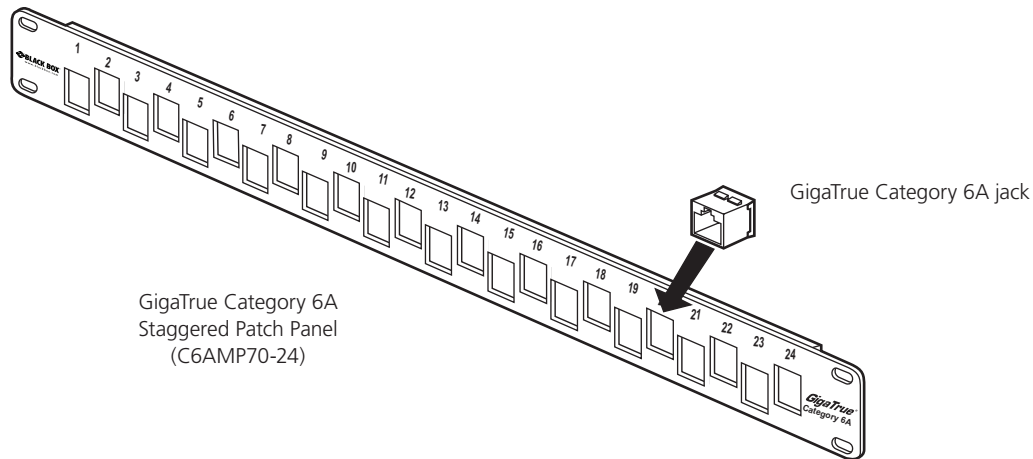

Figure 1. Installing the Category 6A jacks into the patch panel.
2. Insert the terminated jacks into the unloaded adapter panel. See Figure 1.